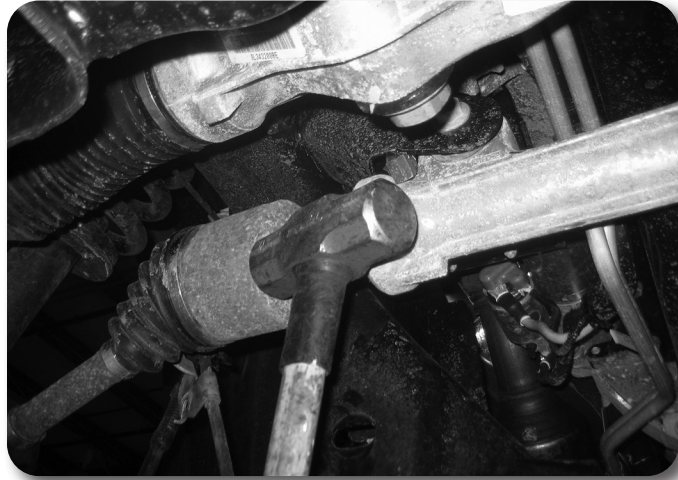

Figure 9
22. Remove the passenger's side CV shaft. Strike the shaft with a hammer to dislodge it from the splines. This will make handling the differential much easier. Figure 9